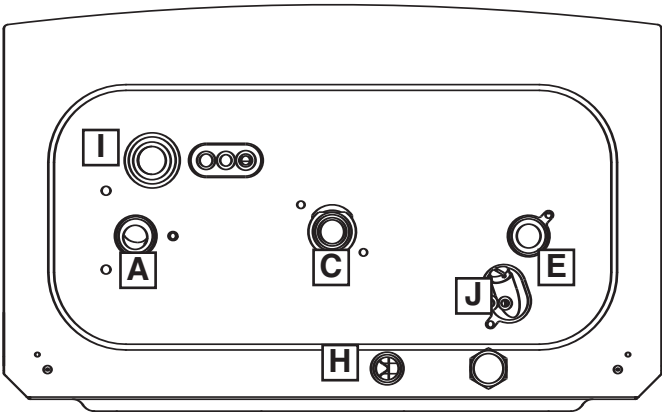

FIG. 2.5
2.5.2. Position the appliance on the hanging bracket and connect the connection kit to the boiler connections. (see also Sections 2.7 Gas Connections, 2.8 Water Connections & FIG. 2.5).
A flexible hose is supplied for connection to the condensate discharge point **H** (Fig. 2.5). The condensate discharge hose from the boiler must have a continuous fall of 2.5° and must be inserted by at least 50 mm into a suitable acid resistant pipe - e.g. plastic waste or overflow pipe. The condensate discharge pipe must have a continuous fall and preferably be installed and terminated within the building to prevent freezing.